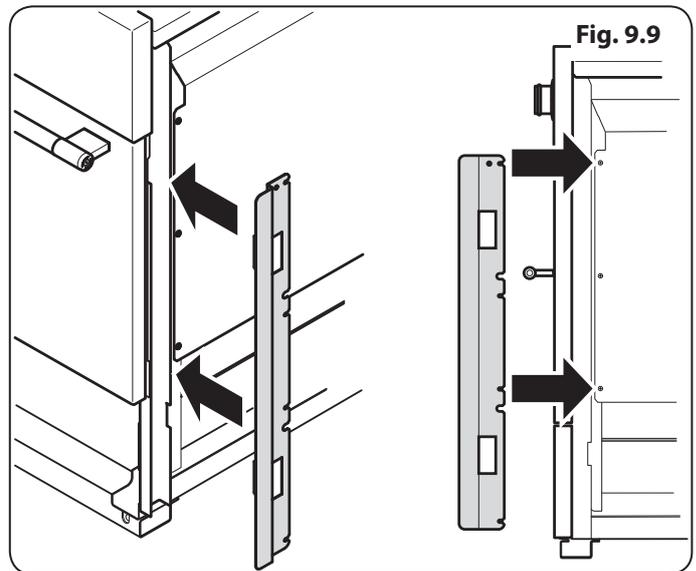

Fig. 9.9
1. Located near the front on each side of the range there are three screws. Loosen the top and bottom screws (**Fig. 9.9**).